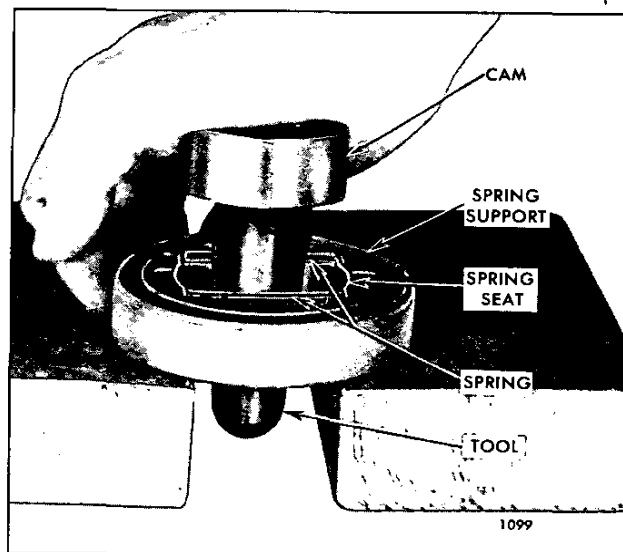

Fig. 20 – Inserting Cam in Blower Drive Support with Tool J 5209
- a. Place the drive spring support on two blocks of wood (Fig. 20).